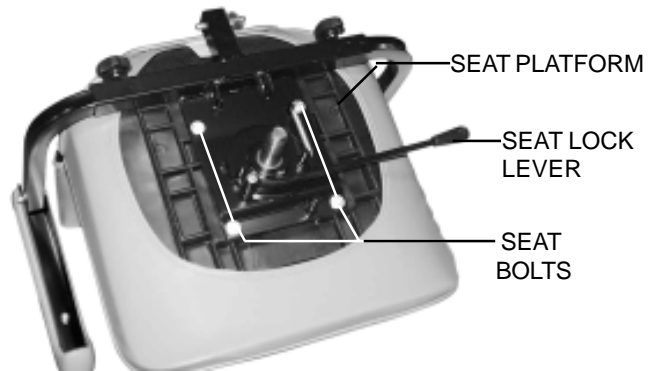

Figure 12. Front-to-Back Seat Adjustment
1. Push forward on the seat lock lever and lift the seat up and off of the scooter. See figure 12.
You can reposition the scooter's seat forward or rearward to one of three settings to adjust the distance between the seat and the tiller. See figure 12.
2. Remove the four bolts that fasten the seat to the seat platform. See figure 12.